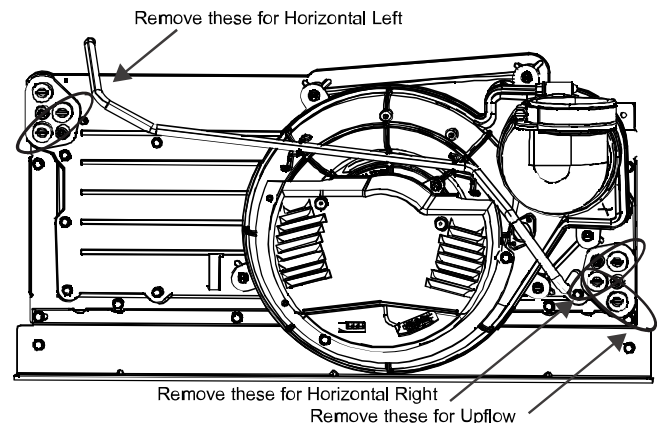

Fig. 13 – Drain Plugs
2. Remove two of the factory-installed drain plugs from collector box. Orientation specific drain plugs, see Fig. 13.
4. Remove appropriate collector box drain plug, see Fig. 13.